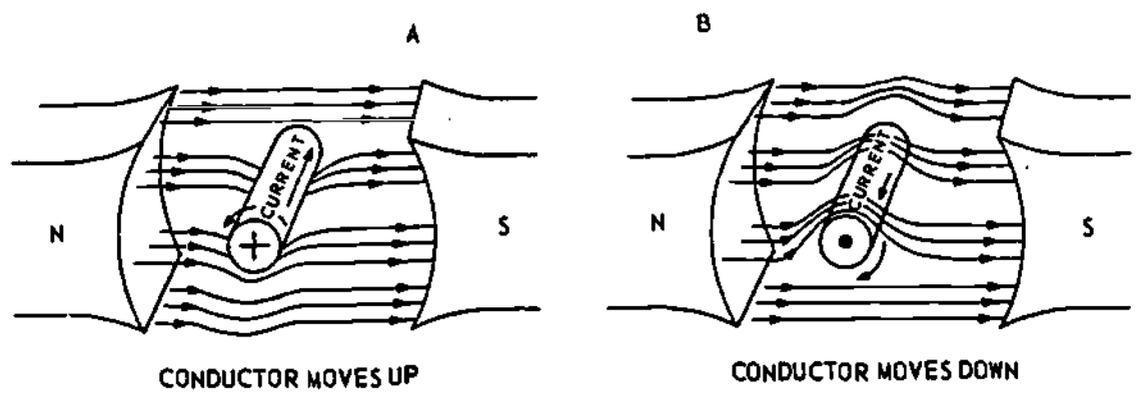

Figure 5-29. How a Current-Carrying Conductor Moves in a Magnetic Field
5-94. Recall that a current-carrying conductor has a magnetic field. Polarity of the magnetic field depends upon the direction of the current. Figure 5-29 A & B illustrates the magnetic field around a conductor carrying current into and out of the page. A cross represents current flowing into the page and a dot represents current flowing out of the page. The field set up by current flow into the page is counterclockwise (CCW) and the field set up by current flow out of the page is clockwise (CW). Earlier in the course you used the "left-hand rule" to determine how lines of force move around a conductor. This rule states: "If you grasp a current-carrying conductor in the left hand with the thumb pointing in the direction of current flow, the fingers will point in the direction of the magnetic lines of force around the conductor."